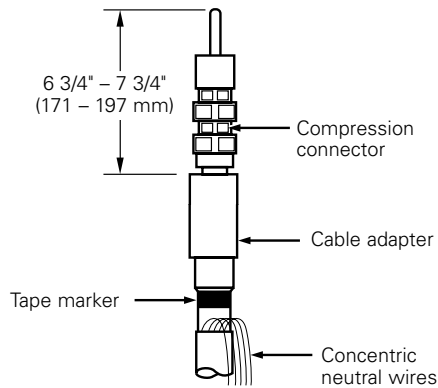

Figure 23. Line illustration for dimensional check.
- Length should be between 6 3/4" and 7 3/4" (171 - 197 mm). (Refer to Figure 23.)